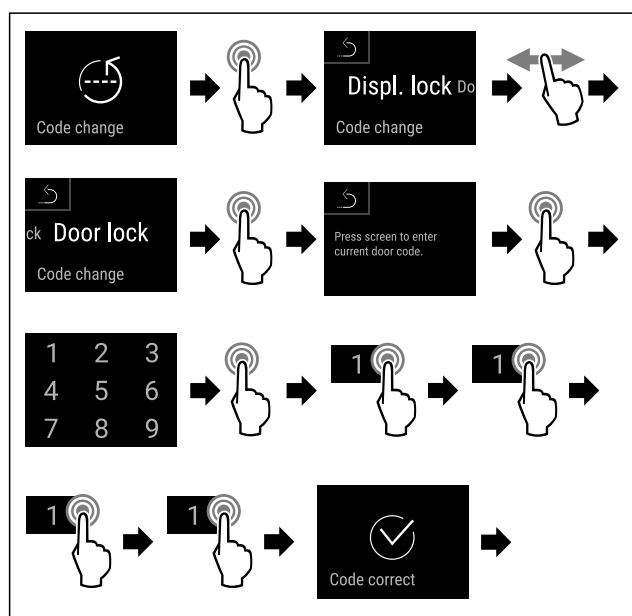

Fig. 81
- ▶ Complete steps (see Fig. 81).